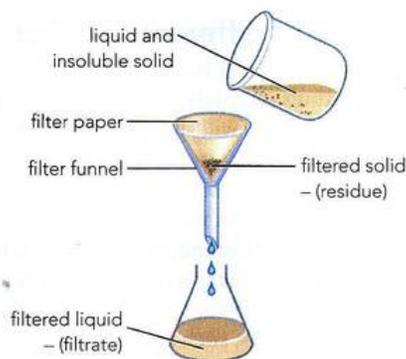

Figure 21.9: Filtration to remove the insoluble components of the rock salt mixture.
- 3 Carefully set up the equipment as shown in Figure 21.9 and filter the mixture into a conical flask. This will remove the insoluble materials and leave a solution of sodium chloride and water (the filtrate).